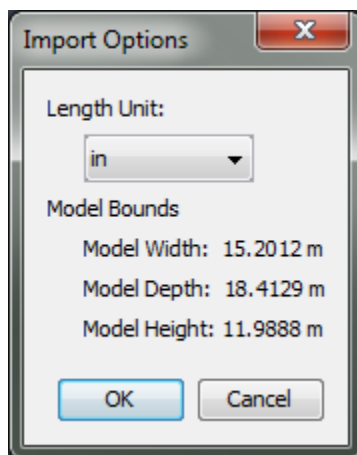

Figure 3.1. DXF/DWG Import Options dialog
3. Select the length unit from the **Import Options** dialog shown in Figure 3.1. If the DXF/DWG file stored a length unit with the file, this will be selected by default.